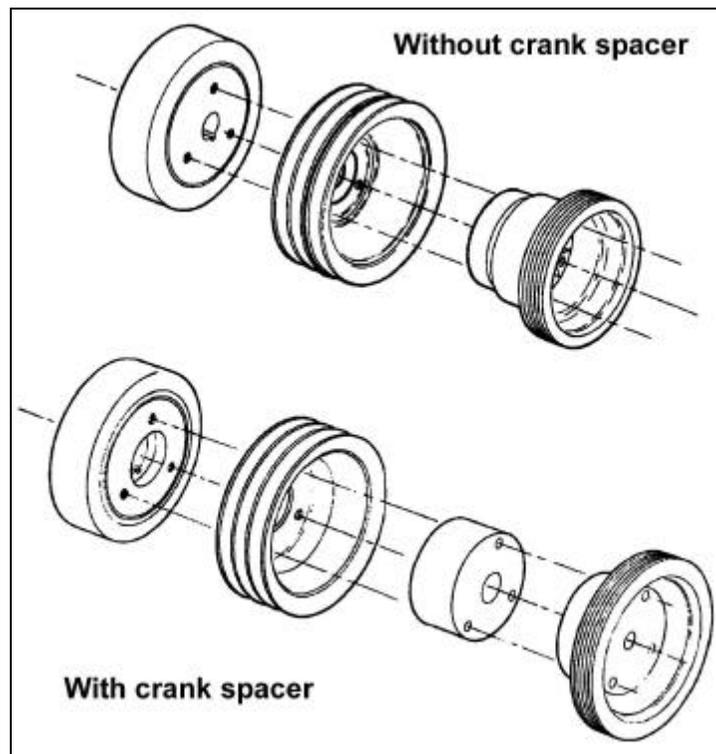

Figure 1
**STEP 1.** (Powercharger). Remove the bolts that secure the crankshaft pulley to the damper. The center bolt from the damper must also be removed on small block Chevrolet V8s. Install the supplied supercharger drive pulley together with any spacers that are supplied with the kit inside of the stock stamped steel crankshaft pulley. Fit the pilot on the pulley or spacer into the center of the stock steel pulley, and the pilot of the drive pulley into the spacer, if there is one, and align the bolt holes. Put the supplied bolts through the pulley and spacer (if there is one) into the crankshaft. Use thread sealer on these bolts. Tighten the bolts. The small block Chevrolet kits require the removal of the center bolt that secures the harmonic balancer to the engine, but on other engines the center bolt is not removed. On small block Chevrolet kits install the supplied center bolt and tighten it to 75 ft./lbs. See Figure 1.